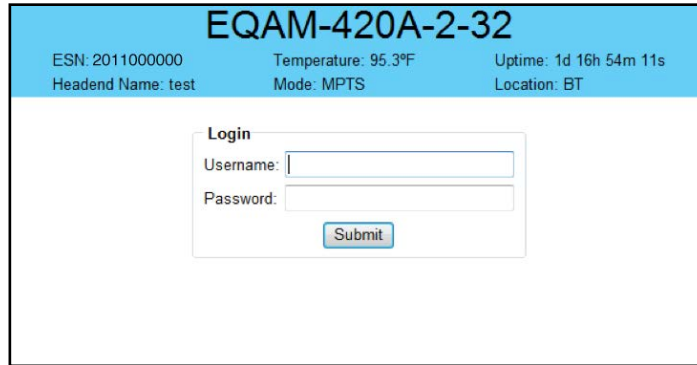

FIGURE 5.1 – Login Screen
- (1) Open a web browser on your computer (Internet Explorer 7 or higher is recommended) and enter the following URL address (**http://172.16.70.1**). The "Login Screen" (Figure 5.1) will appear.